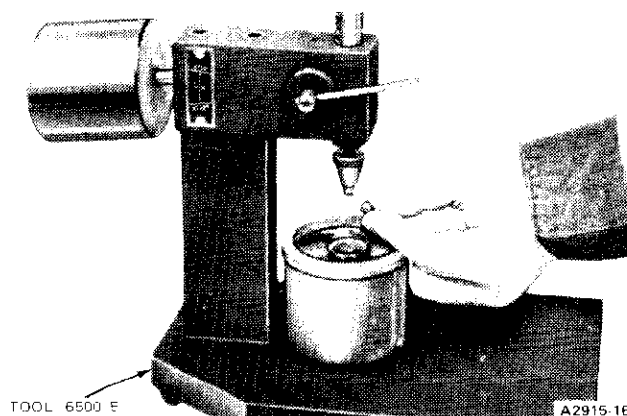

FIG. 8 Placing Steel Ball in Valve Tappet Plunger
3. Place the 5/16-inch steel ball provided with the tester in the plunger cap (Fig. 8).